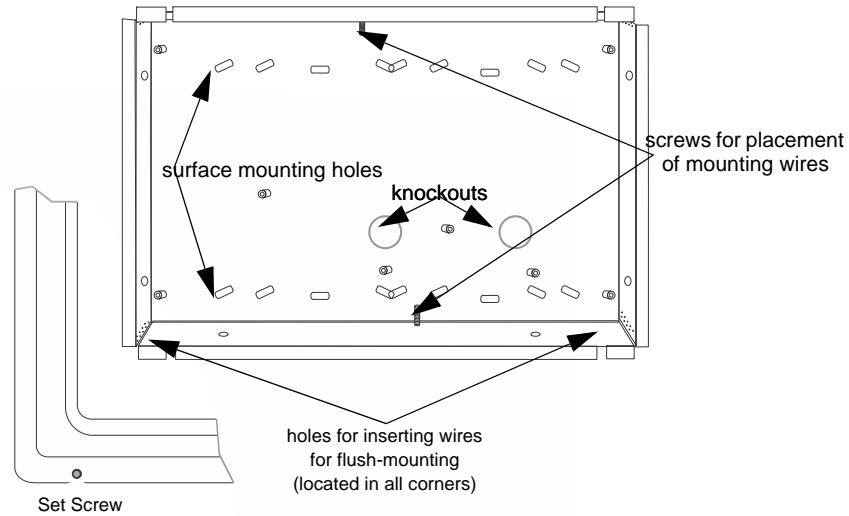

Figure 4.20 Annunciator Backbox and Bezel Details
The 5860 comes from the factory fully assembled. You must disassemble it for mounting. To disassemble the annunciator, use a 5/64" hex wrench to remove the set screws, located on the bottom of the annunciator bezel. (See Figure 4.20 for location of the set screws.)
1. Drill holes in the surface to match the screw holes on the backbox. Refer to Figure 4.20 for locations.
5. Replace the electronic assembly in the backbox. Place the bezel over the backbox and tighten the set screws on the bezel. Refer to Figure 4.20 for location of set screws.